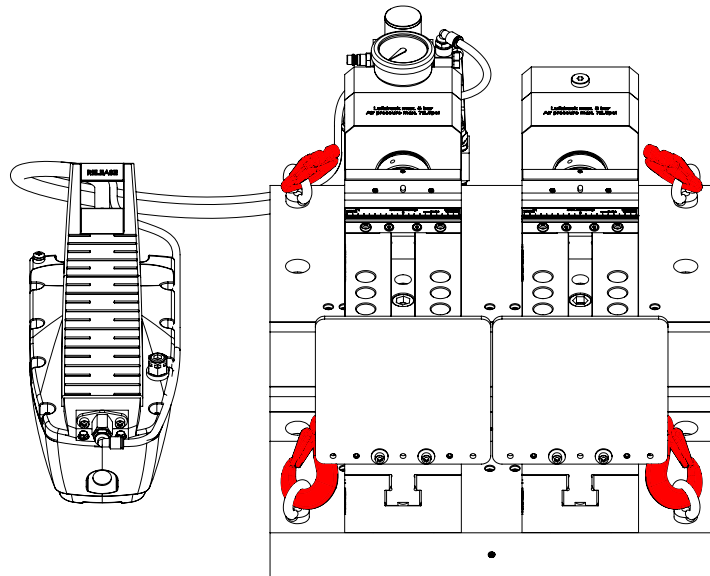

Fig. 3-1: Transport with eyebolts
- Step 3 Screw the four eyebolts into the grooved plate of the double stamping unit (see figure 3-1).
- Step 4 Hang the hoist (see figure 3-1).